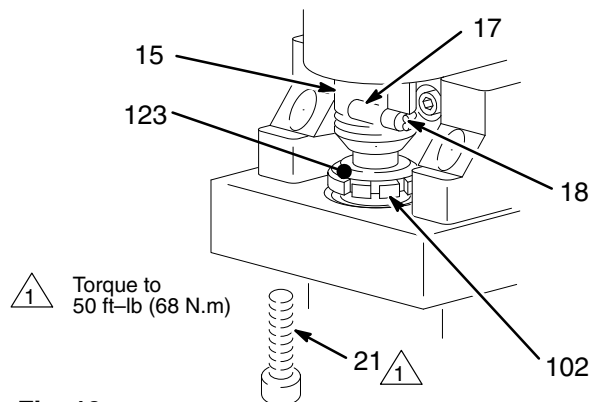

Fig. 19
- a. Remove the pump connecting rod pin (17). See Fig. 19, page 22.
12. **Break in the brushes.** Operate the sprayer for at least one hour with no load. Install the pump connecting rod pin. See Fig. 19, page 22.
Be sure the retaining spring (18) is firmly in the groove all the way around, to prevent the pin (17) from working loose due to vibration. See Fig. 19.